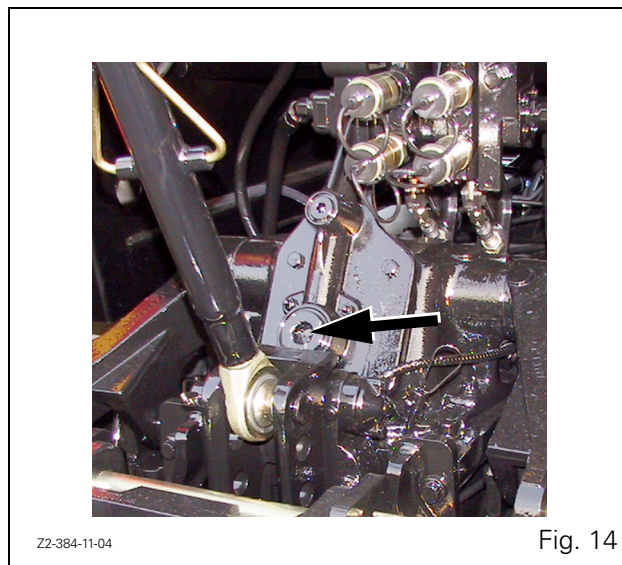
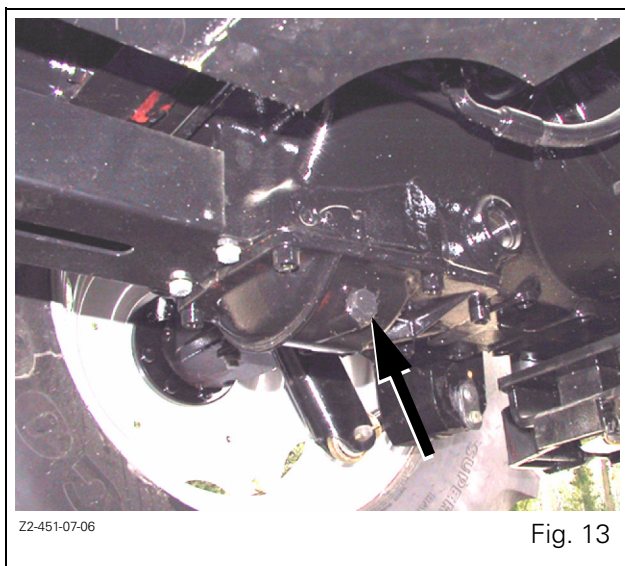

Fig. 14
Fig. 13
2. Remove the drain plug (Fig. 13) and the filler plug (Fig. 14).